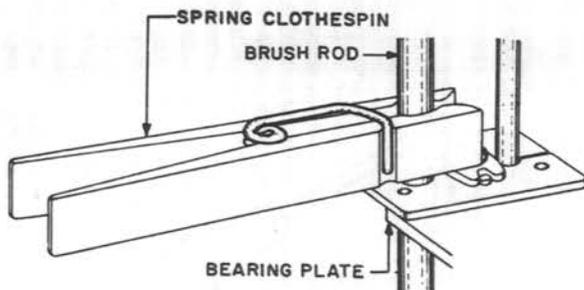

Fig. 11 — Method of Placing Spring Clothespin
3.18 Then, with the other hand, lift the brush rod away from the rack. The rod now has no means of support, so it will be necessary to hold it in place by clamping it with a spring clothespin, as shown in Fig. 11 just above the bearing plate. Slide the brush off the lower end of the rod. Spread the sleeve springs of the brush enough to allow them to pass by the guide rod.